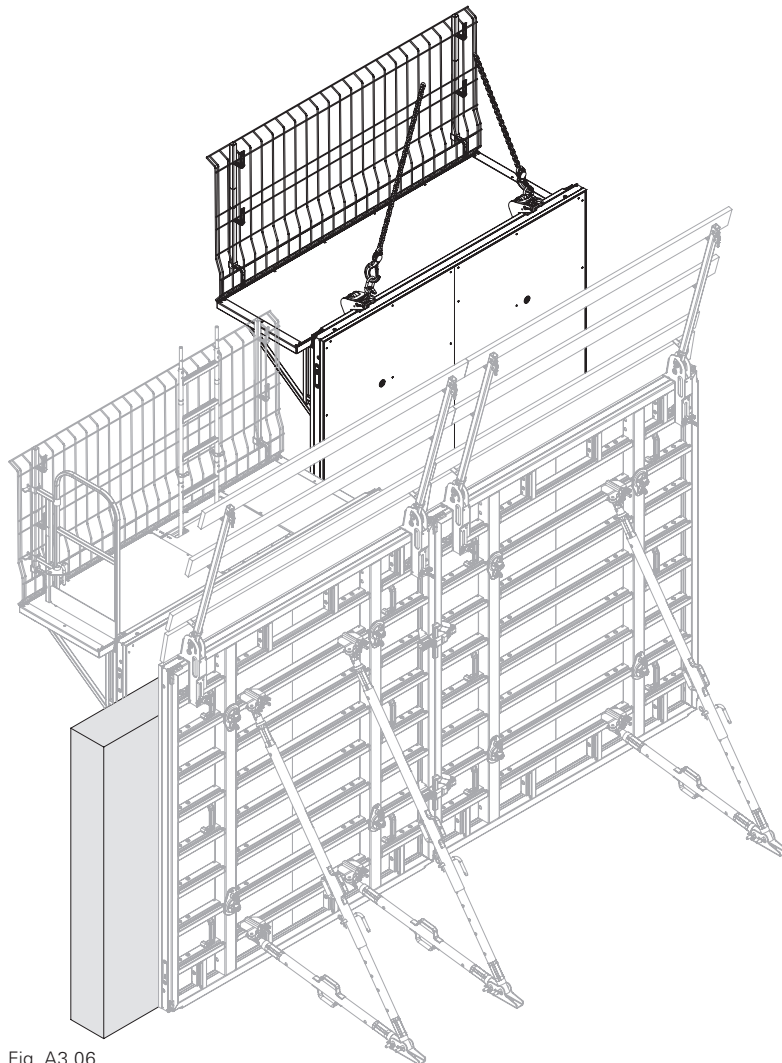

Fig. A3.06
1. Fit the Lifting Hook MAXIMO 1.5t (6) to the panel.
3. Use a crane to transport Panel MX-2 (5) of the closing formwork to the place of use.
4. Connect Panels MX-2 (5) with Alignment Coupler BFD (16).
5. Fit Tie MX, e.g. Tie MX18 15-25 (17).
6. Release the 2-sling lifting gear. (Fig. A3.06)